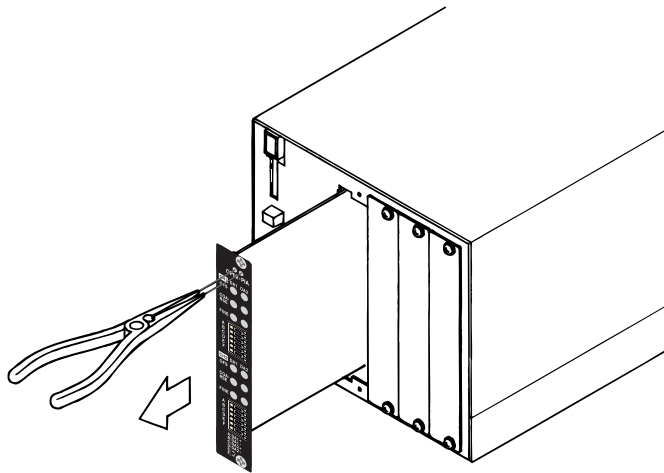

Fig. 9-3 Removal
3. As shown in Fig. 9-3, insert long-nose pliers into the drawing hole and slowly draw out the control board.